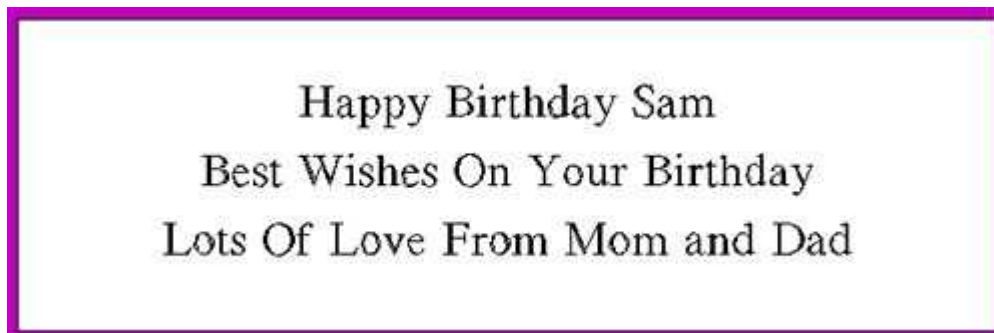

Figure 3
- 4 You will now have your engraving area with text in it, on the screen. Click on the Zoom Machine Bed, this will show you the Workspace in relation to the work area, see Figure 3.